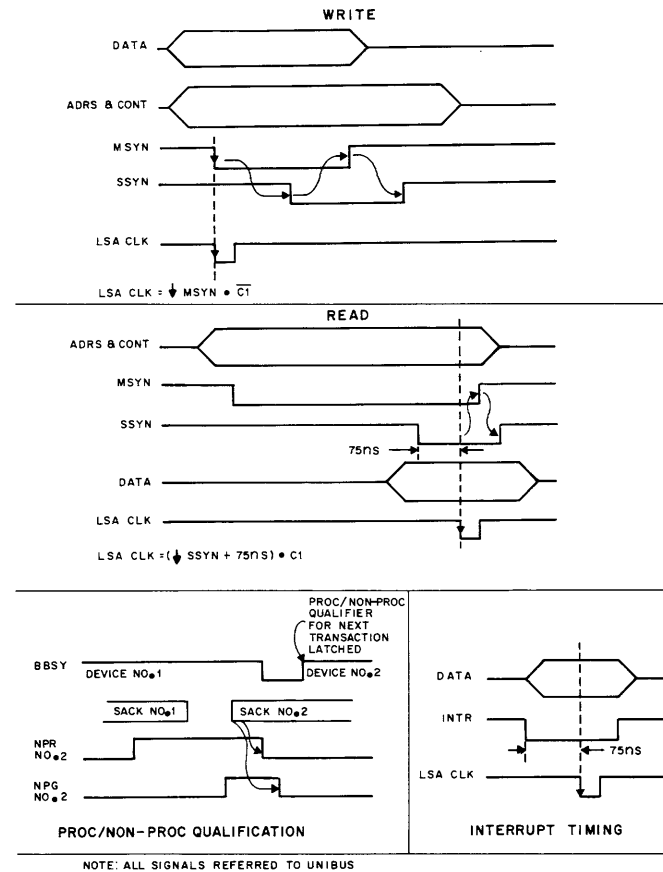

Figure 1. Timing Diagrams
13. The Unibus does not have a distinct clock signal associated with address and data, but operates from asynchronous handshake signals. This allows address and data to be transmitted as fast as a master and slave device can respond. The Unibus is an open-collector, low-true bus. For a data out or write, the address, data, and control signals are made valid on the Unibus, and MSYN (Master Sync) is asserted low (see figure 1), indicating that address, data, and control signals can now be read. When SSYN (Slave Sync) is asserted low, it signals the master that the data has been received and strobed in. Next, the master releases MSYN signalling that address, data, and control signals are no longer valid; in response, SSYN is released high and the bus is returned to its quiescent state. The master can now begin the next bus transaction. For a write (signified by a C1 low), the 10275A interface generates a clock for the Logic Analyzer to strobe in address and data on the asserted edge of MSYN.
Figure 1. Direct interface to any PDP-11 Unibus and the ability to monitor 32 bits of address and data makes it easy to analyze program execution. This trace is the bootstrap of a PDP-11/04 which displays the bootstrap program counter vector 173000₈ being located at address 173024₈.
Front cover photo shows a Model 10275A interface board plugged into a minicomputer. The interface board is normally inside the computer however, for clarity in the photo, the 10275A is on an extender board. The 1610A Format Specification defines 16 bits of address and data to be displayed in octal base (figure 1). Also shown is a general purpose interface Model 10277A which allows quick connection of the Analyzer probes to the 10275A through ribbon cables.